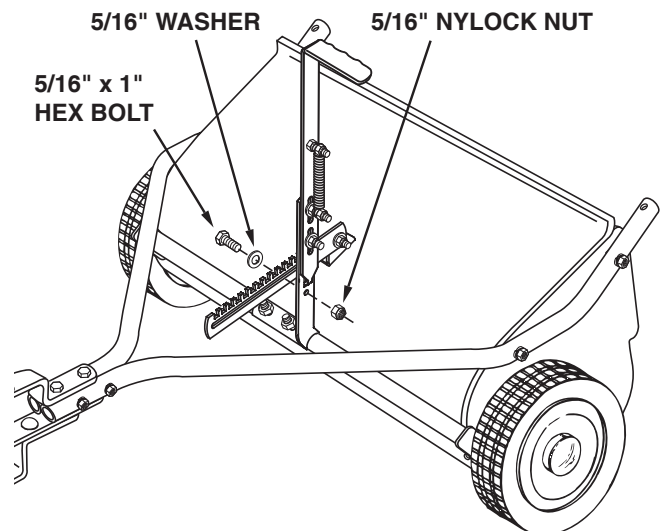

FIGURE 11
22. Attach the height adjust strap to the height adjust handle using a 5/16" x 1" hex bolt, 5/16" washer and 5/16" nylock nut. Place the washer against the slot in the height adjust strap. Tighten the nut and then loosen 1/2 turn so that the strap can slide freely. See figure 11.
23. Slide the height adjust handle so that it aligns with the height adjust strap and the angle bracket. Tighten the height adjustment handle in place. See figure 11.